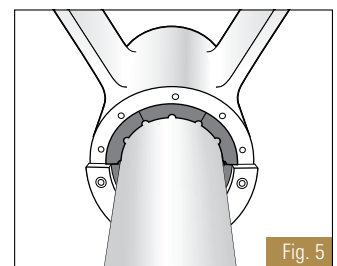

Fig. 5
6. **Insert upper half staves.** Lubricate stave surfaces and the sides of the last stave with liquid dish soap to obtain an easier fit of the last stave. **DO NOT LUBRICATE THE BACKS OF THE STAVES.** The last stave may need to be fitted with the help of a wooden mallet. (Fig. 5)